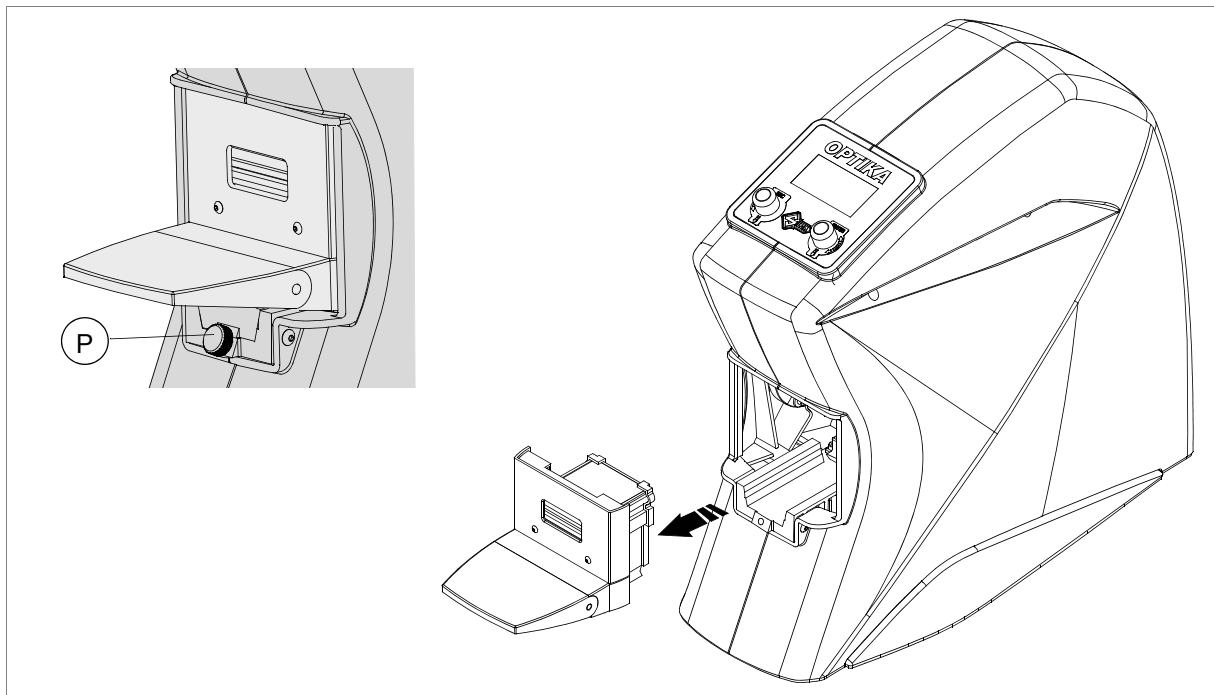

Fig. 36
- 2) Completely unscrew the clamp fixing knob (P) (fig. 36).